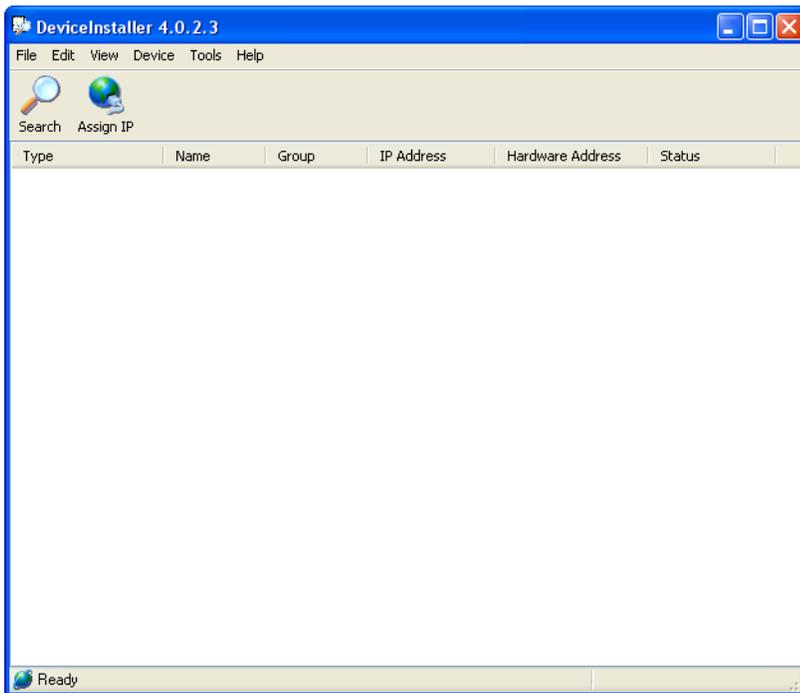

Figure 18: The DeviceInstaller Program Window
1. From the Windows Taskbar, click on Start > All Programs > Keri Systems > DeviceInstaller > DeviceInstaller to start the configuration program. The DeviceInstaller program opens (see Figure 18).